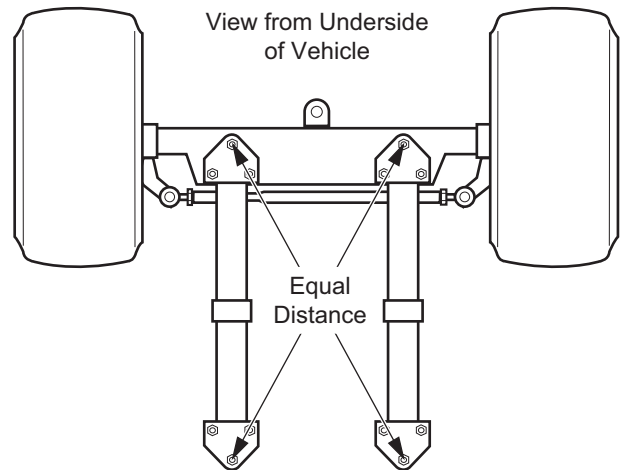

Figure 7 Front Axle Alignment
11. When the front springs are replaced, the front axle must be aligned to the frame. The distance from the center bolt at the rear of the left spring to the center bolt at the front of the right spring must be the same as the distance from the center bolt at the rear of the right spring to the center bolt at the front of the left spring (Figure 7). Tighten the spring hardware (21, 19, 27) first, and the rack and pinion unit hardware (15) second, to the torque value specified below (Figure 6).